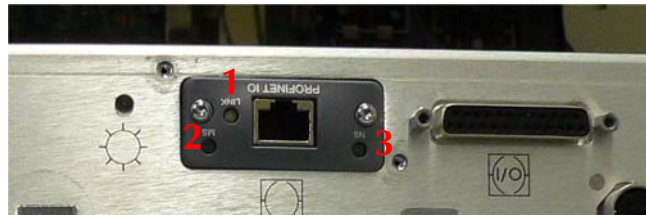

Figure B-40 Profinet and I/O Connectors
5. Remove the (Figure B-40):
- ❑ Two (2) Philips screws holding the Profinet connector.
8. Reinstall the (Figure B-40):